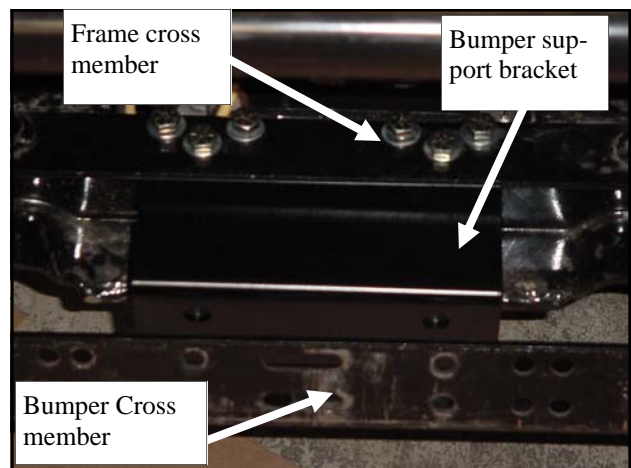

Fig. 1.4 — Bumper support bracket
1.4 Per fig. 1.4, rotate bottom of bumper away from frame of vehicle. Slide bumper support bracket behind the bumper cross brace and under vehicle frame cross member. Attach to vehicle frame cross member with six 3/8" x 1" bolts, washers and lock nuts.